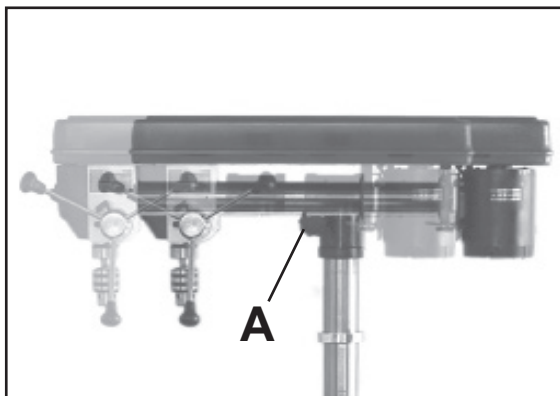

Figure 21
2. Turn the handle (A-Fig.21,22 ) to the desired position.